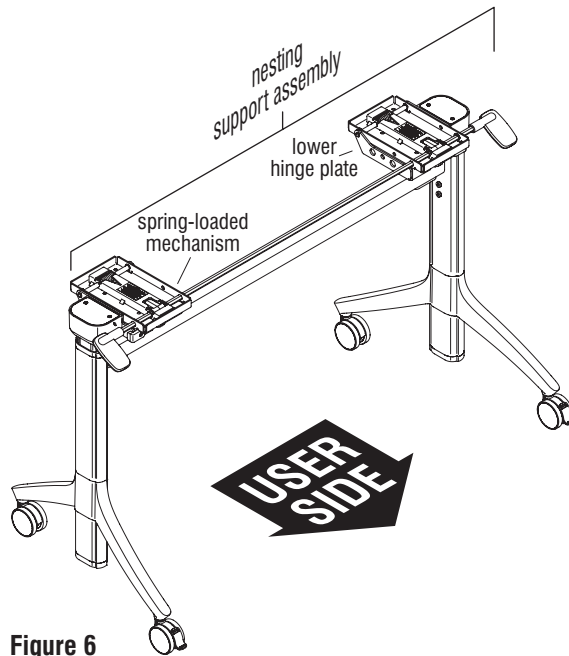

Figure 6
15. Carefully close and latch both spring-loaded mechanisms down onto the lower hinge plates (Figure 6 & Detail I).